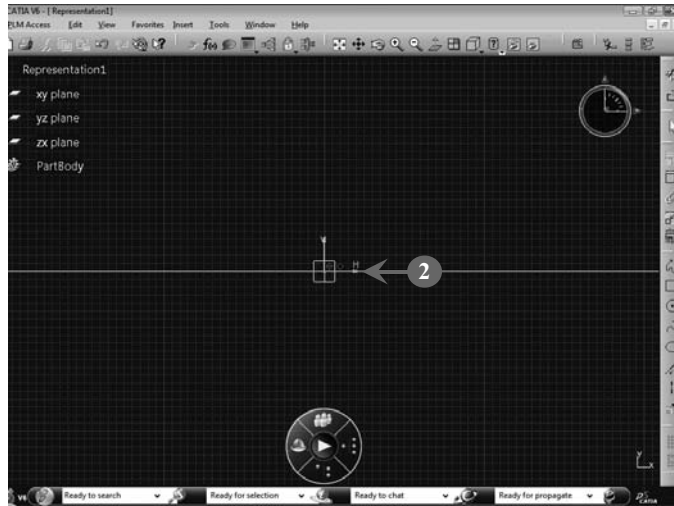

FIGURE 2.18
2. *Specify* a position, then *drag* the mouse and *click* at the position where you want to set the infinite line. In our case, the infinite line is passing through coordinates (0, 0). Now, the final line is drawn, as shown in **Figure 2.18**:
In Figure 2.18, an infinite line is shown that passes through coordinates (0, 0). After learning to draw an infinite line, we next learn how to draw rectangles.